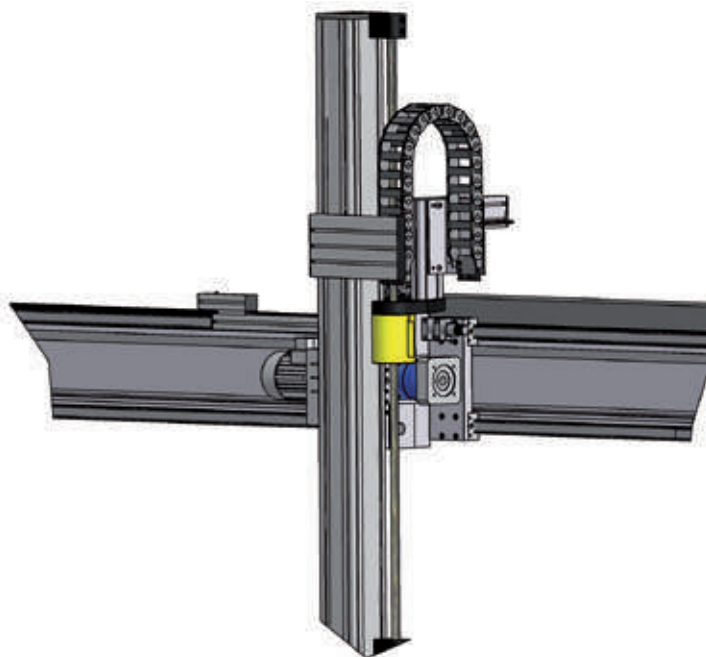

Figure 8.1 ____ Lifting - Axis with safety break
- Safety break (Chapter 6.9) for vertical axis (Figure 8.1)